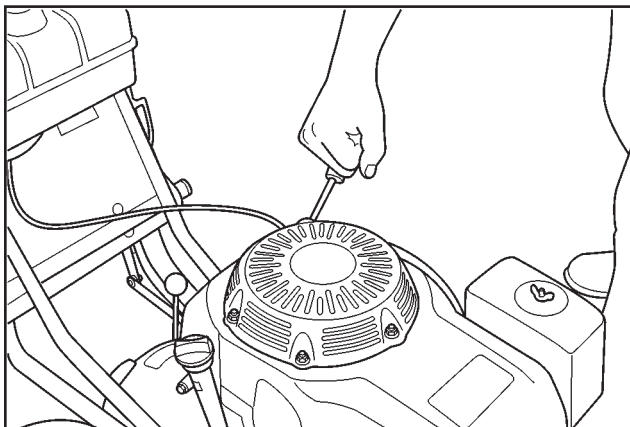

FIGURE 9 Pull Start
2. Pull the starter rope slowly and with low force until the slack is out of the rope and resistance is felt (See Figure 9).